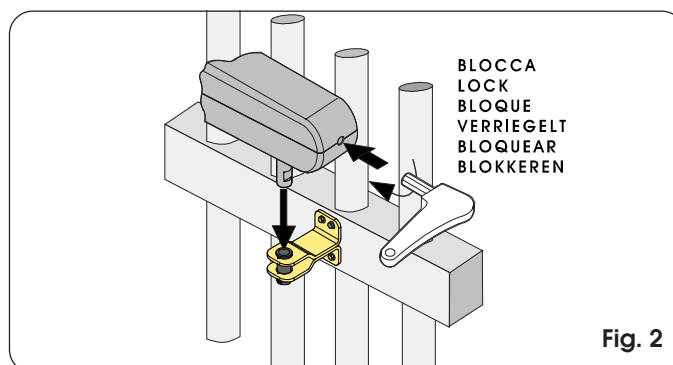

Fig. 2
- Re-position the operator on the front fitting (Fig. 2);